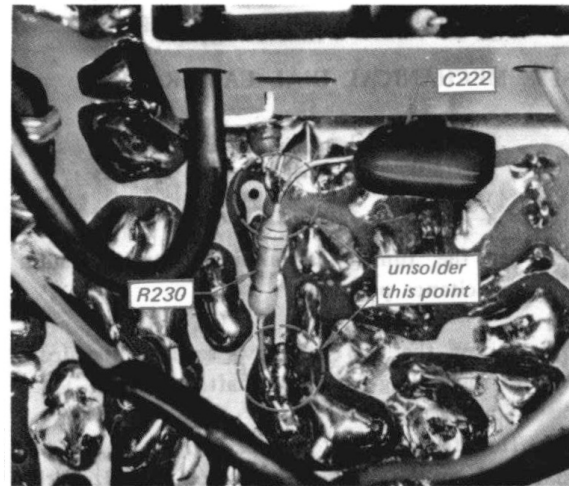

Fig. 2-7. C222 and R230 removal
3. Unsolder C222 (0.1μF), and R230 (47 k), which are soldered between the front end and printed circuit board as shown in Fig. 2-7.